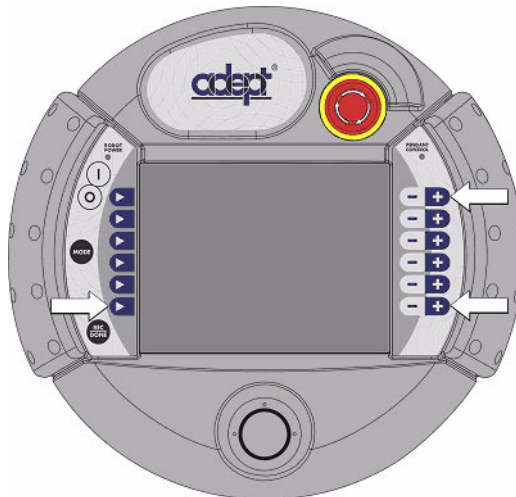

Figure 5-2. Pendant Restore Key Combination
2. While the pendant is re-booting, press and hold the three keys shown by white arrows in Figure 5-2. When the correct key-press combination is recognized, a long beep (approximately 1 second) will sound. Once the beep has finished you can release the keys.